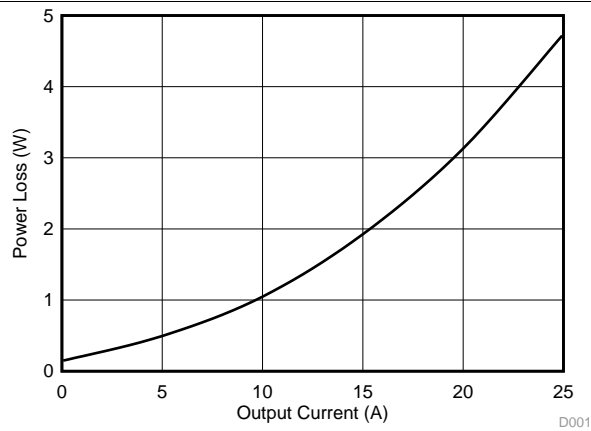
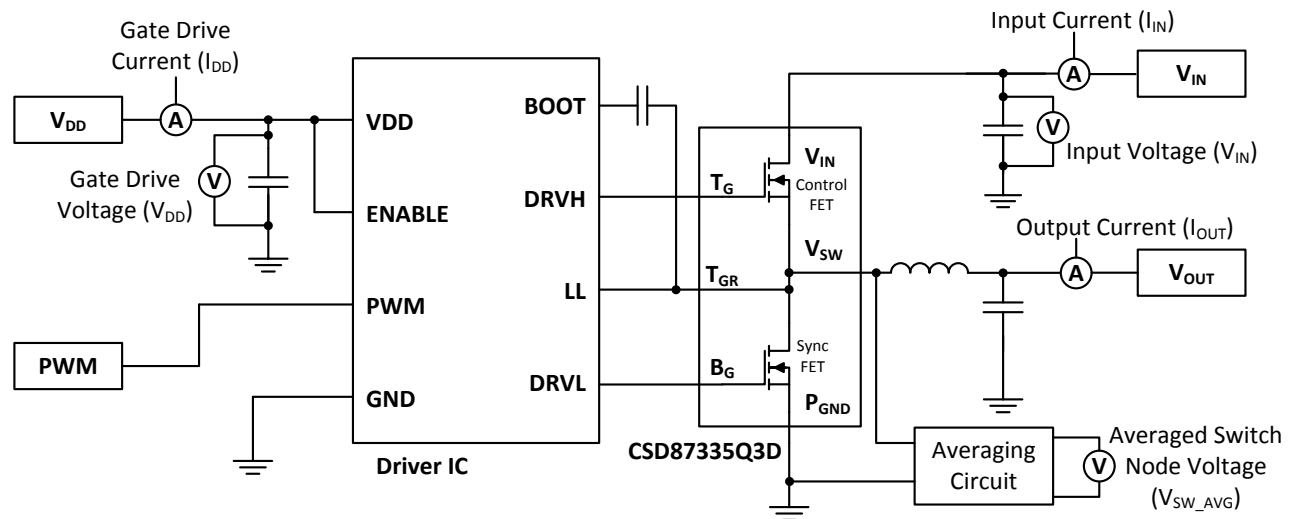

Figure 2. Power Loss vs Output Current
Figure 32. Typical Application
MOSFET centric parameters such as $R_{DS(ON)}$ and Q_{gd} are needed to estimate the loss generated by the devices. In an effort to simplify the design process for engineers, Texas Instruments has provided measured power loss performance curves. **Figure 2** plots the power loss of the CSD87335Q3D as a function of load current. This curve is measured by configuring and running the CSD87335Q3D as it would be in the final application (see **Figure 32**). The measured power loss is the CSD87335Q3D loss and consists of both input conversion loss and gate drive loss. **Equation 1** is used to generate the power loss curve.
The power loss curve in **Figure 2** is measured at the maximum recommended junction temperatures of 125°C under isothermal test conditions.
- Power Loss at 15 A = 1.92 W (Figure 2)